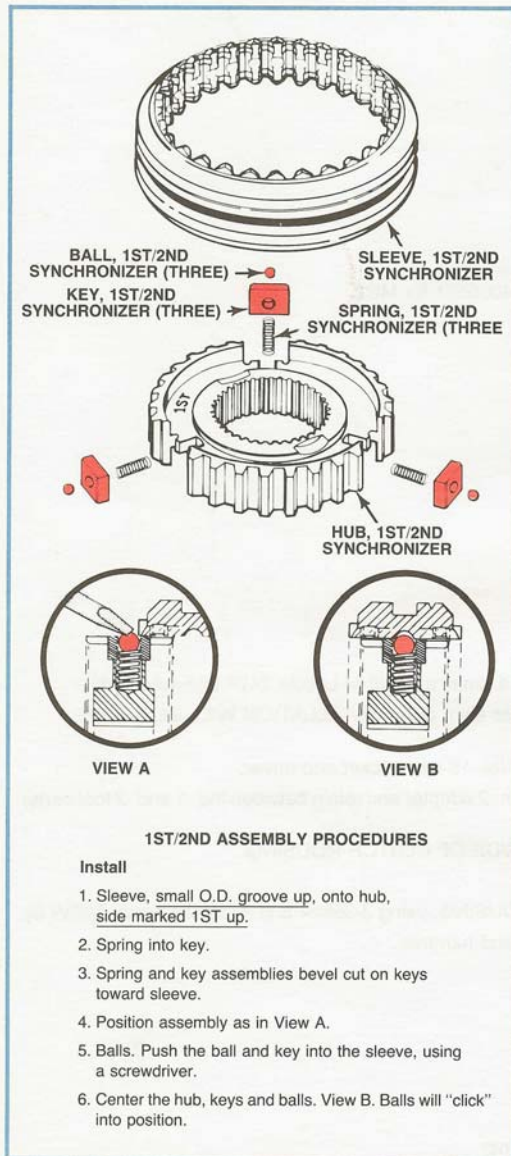

Figure 5-18, 1st/2nd Gear Synchronizer Components.
See Figures 5-18, 5-19 and 5-20 ...
- 1st/2nd gear synchronizer assembly, Figure 5-18.